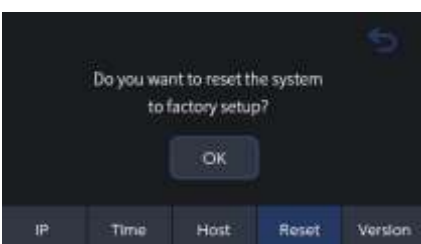

Figure 4.35 Reset Screen
D. Reset: Use to restore settings to factory default. A prompt will be displayed "**Do you want to reset the system to factory setup?**" followed by "OK" button. On pressing OK, all system settings will be deleted and restored to factory default settings. (See Figure 4.35).